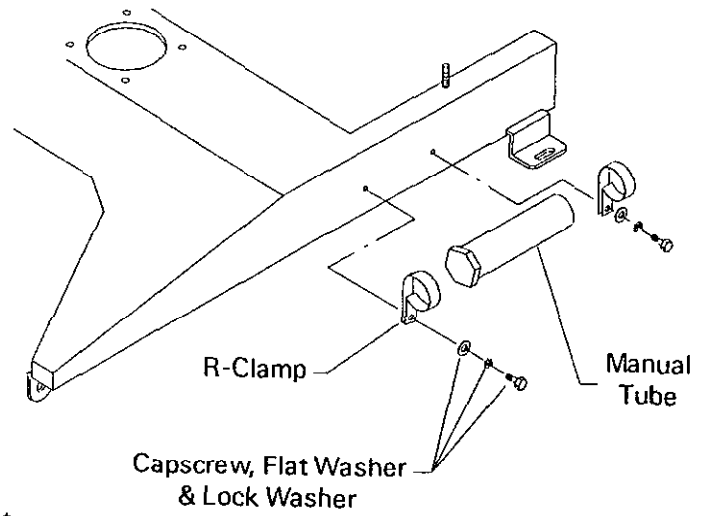

Figure 5
6. Mount operator manual tube to 5th wheel hitch plate. (See Fig. 5)